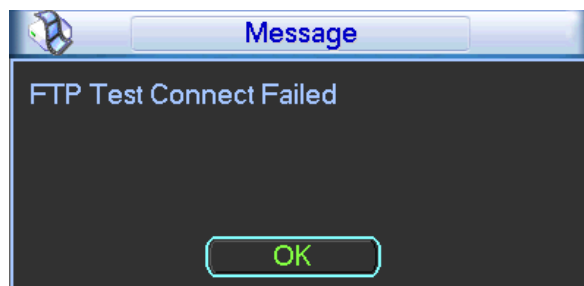

Figure 5-35
- Click the Test button, you can see the corresponding dialogue box to see the FTP connection is OK or not. See Figure 5-35.